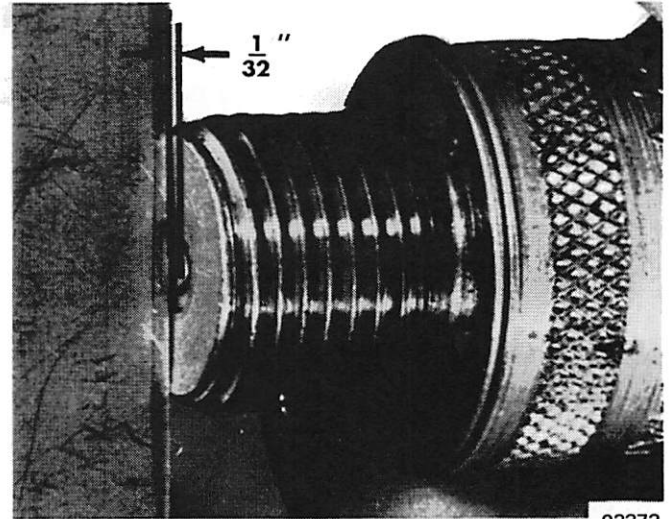

Figure 7. Checking Spark Plug Center Electrode
1. If spark plug center electrode is not burned back  $\frac{1}{32}$ " (.8mm) below insulator, it will function properly. (Figure 7) Do not replace for other than this reason.